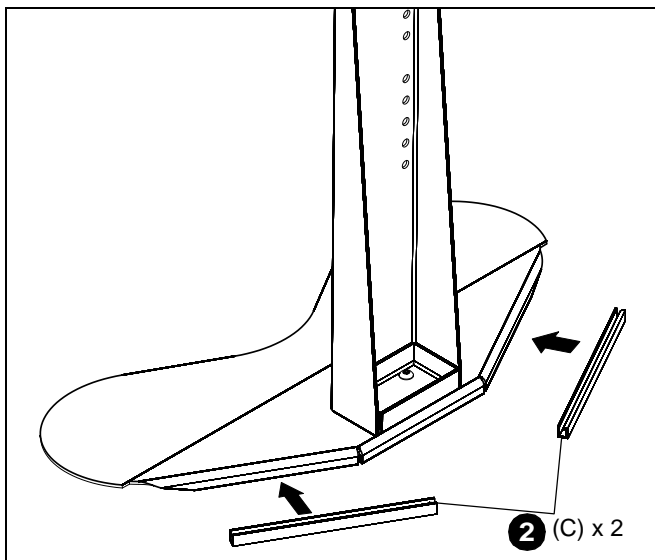

Figure 2
- Attach edge trim pieces (C) to the base assembly (D). See Figure 2.